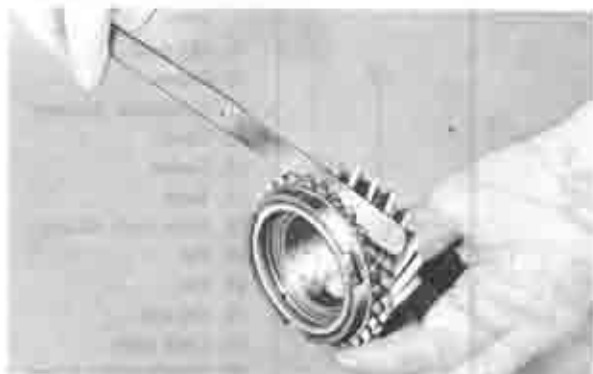

Fig. 7-12 Checking synchronizer ring
2. Inspect the synchronizer ring for wear. To check the wear of the synchronizer ring, fit the synchronizer ring evenly to the gear cone and measure the clearance between the side faces of the synchronizer ring and the gear with a feeler gauge, as shown in Fig. 7-12. If it is less than 0.8 mm (0.031 in), replace the synchronizer ring or gear. The standard clearance is 1.5 mm (0.059 in).